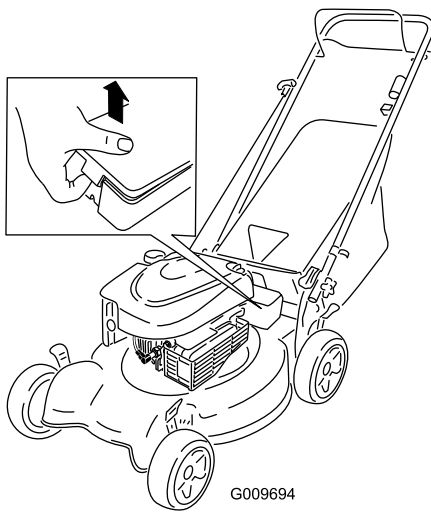

Figure 5
1. Unclip both ends of the battery cover and remove it (Figure 5).